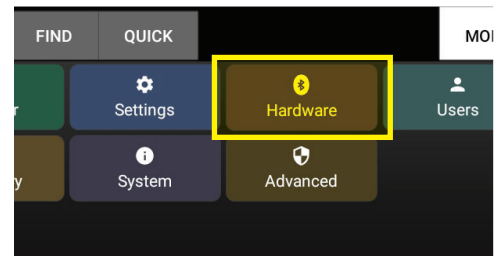

Figure 42
2. On the tablet, tap More > Hardware > Card Reader in the upper-right corner of the CloudSent screen (Figure 42 & 43).